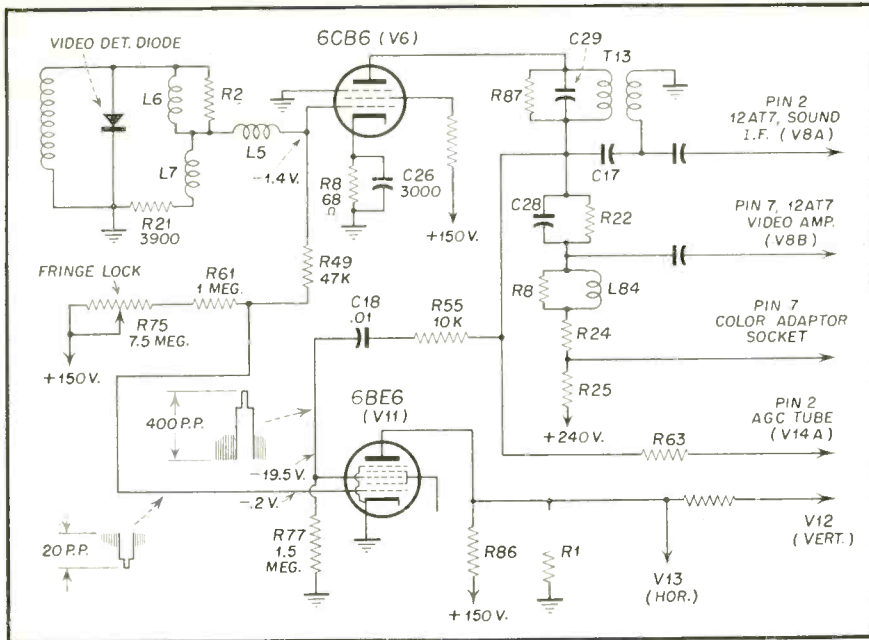

Fig. 2. Partial schematic of Zenith 20J21 receiver.
2. ^c Under normal operation, the vertical sync pulses are not seen on the screen since they appear during the blanking interval between fields. However, it is simple to set the receiver to observe the vertical blanking and sync pulses on the screen of the picture tube by a few adjustments. 1) Turn up brightness. 2) Turn down contrast so the picture is greyish. 3) Rotate the vertical hold so the picture moves down slowly along the screen. Under such conditions, the blanking interval between fields which is usually not seen, becomes visible, Fig. 2. Also visible are the vertical sync and equalizing pulses. The blanking level should be darker than any section of the picture, since it is more negative compared to any picture information, Fig. 1. In the same way, the vertical sync and equalizing pulses should be the darkest parts of the screen since they represent the most negative parts of the signal coming to the screen. If the sync pulses are not darker or
observed pulses are blacker than all other parts of the picture, Fig. 2, it indicates that sync pulses of the proper amplitude are coming in to the picture tube. The video strip must